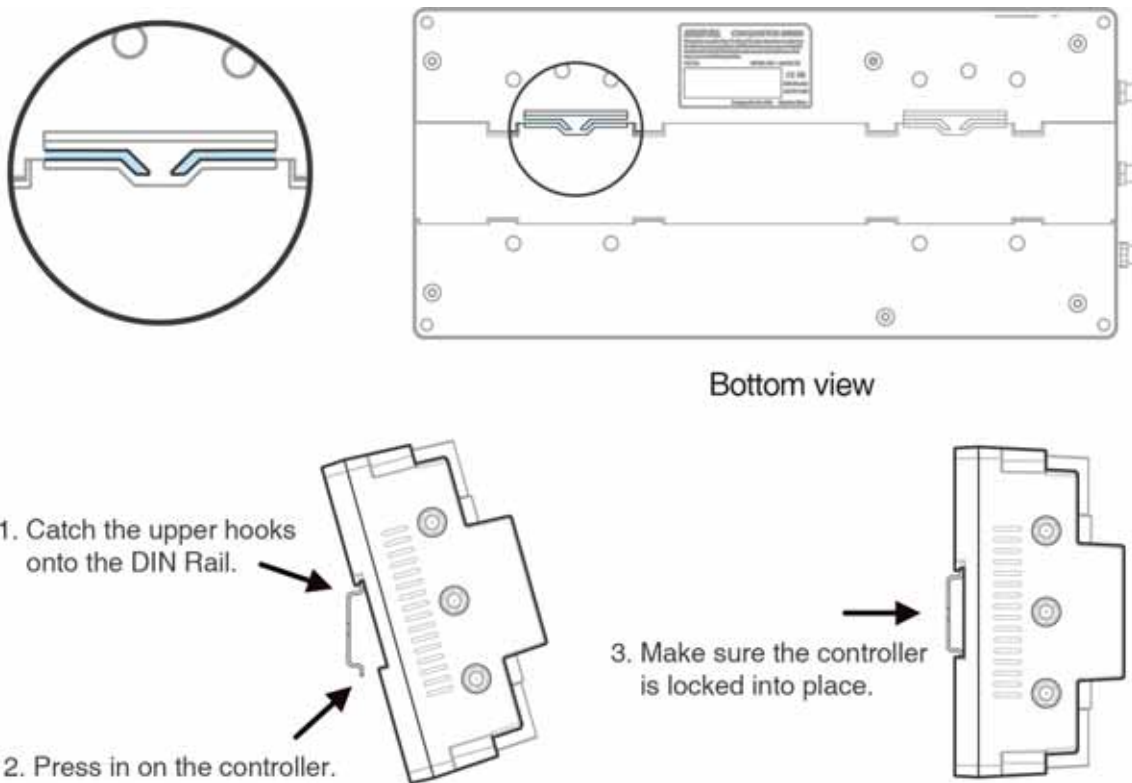

Figure 3-3 Mount the controller to the DIN rail adapter
2. Catch the hooks on the tops of the controller onto the DIN rail and press the controller onto the DIN rail until they lock into place, as shown in **Figure 3-3** below.